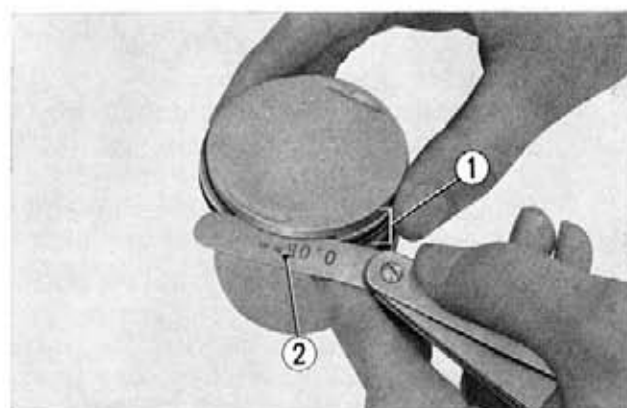

Fig. 3-63 ① Piston ring ② Thickness gauge
Measure the clearance between the piston ring and the ring lands using a thickness gauge. (Fig. 3-63)
6. Measuring the piston pin bore (Fig. 3-63)